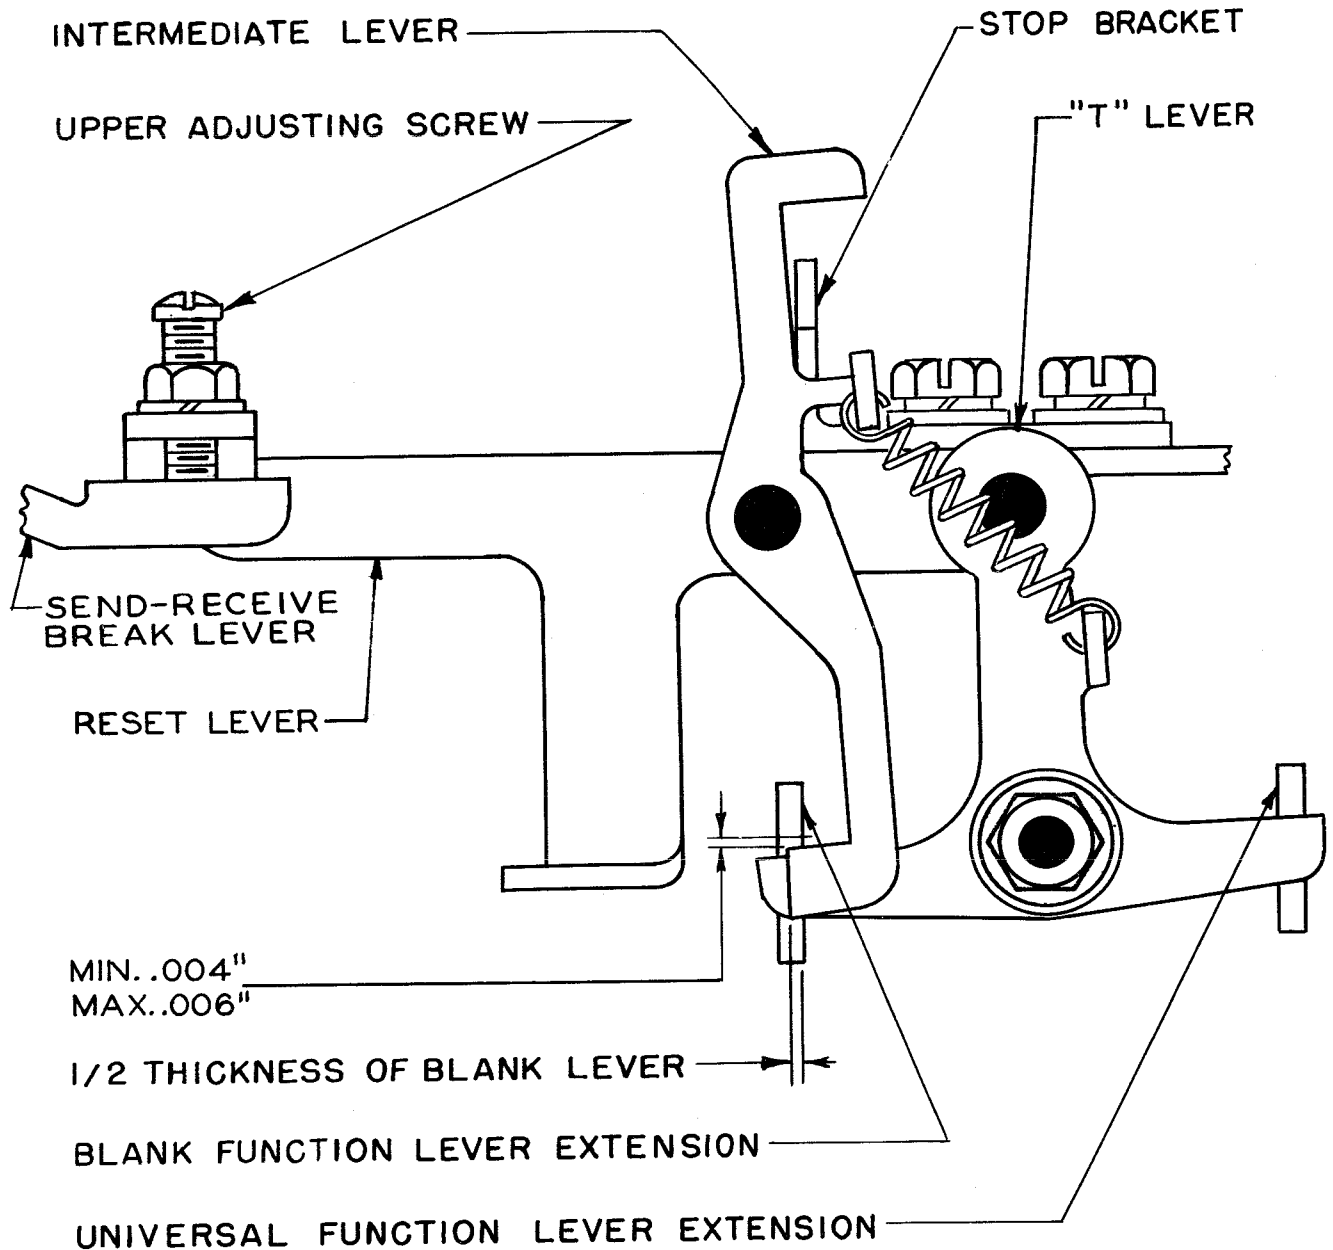

Figure 55
(a) Units Equipped with Double Blank Break (Units with Universal Function-lever): The upper edge of the intermediate-lever toe should clear the blank-function-lever extension by minimum 0.004 inch, maximum 0.006 inch when (1) the printing bail is in the extreme rear position, (2) the send-receive-break lever is in the send (up) position, (3) the intermediate-lever toe is moved under the blank function lever, (4) the T-combination is set up, and (5) the motor is rotated until the blank function-lever overlaps the toe of the intermediate lever by half the thickness of the blank function-lever. See Figure 55.